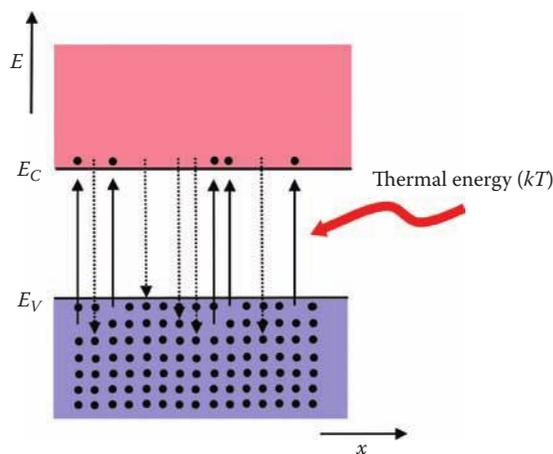

FIGURE 5.15
Great. Semiconductors have a unique crystalline structure that produces energy bands separated by a forbidden bandgap, the magnitude of which is especially conducive to building transistors. How does this help? Well, we said that the key to semiconductors lies with being able to easily and controllably manipulate their resistivity in various interesting ways. Let's now combine that notion with our energy band model. To do this we must talk a little about electrons and "holes" present in those energy bands. Figure 5.15 shows the conduction and valence bands of a semiconductor, but now with electrons present (shown schematically obviously there are a bunch!). As we will see, temperature plays a pivotal role in distributing the electrons among the bands (see the "Temperature and Temperature Scales" sidebar). One can prove in quantum mechanics that, at absolute zero, 0 K (see the "Geek Trivia: The Quest for Absolute Zero" sidebar), the valence band is completely full of electrons (meaning all of its available electron states are occupied), and the conduction band is completely empty (there are tons of empty electron states, but no electrons). Furthermore, we can also prove that a filled energy band cannot conduct current. Reminder: At the most basic level, current is simply a moving charge ($I = C/s$, charge per unit time), or more generally, $J = qnv$, where J is the current density (in amps per square centimeter), q is the electron charge (1.602×10^{-19} C), n is the electron density (the number of electrons per cubic centimeter), and v is the average electron velocity (in centimeters per second). No current results if: (1) there are no electrons present ($n = 0$) or (2) the electrons present cannot move ($v = 0$). It may seem surprising that no current can be generated by a filled energy band, as there are tons of electrons present. Once more we have to invoke a quantum-mechanical explanation an electron can move in nature only if there is a quantum state available for it to move into (the sacred "Pauli Exclusion Principle" states that no two fermions [an electron is a fermion] can occupy the same quantum state). In this case, all electron
Because the now a thermally excited^o electron sitting in the conduction is at a higher energy level, and nature prefers to return all systems to their lowest-energy configuration (the a ground state^o! this is the way thermodynamics and equilibrium work), after some time t , the electron will drop back into the valence band. Although this is a dynamical process (always going on), at any given instant in time, there is now a finite density of electrons present in the conduction band (Figure 5.15). This is important, because there are also plenty of empty electron states in the conduction band, and hence the electron is now free to move if acted on by an external force (e.g., an applied electric field), producing current (music to the ears of any electrical engineer!). Interestingly, in this scenario, the valence band is also no longer full, and hence there are now empty electron